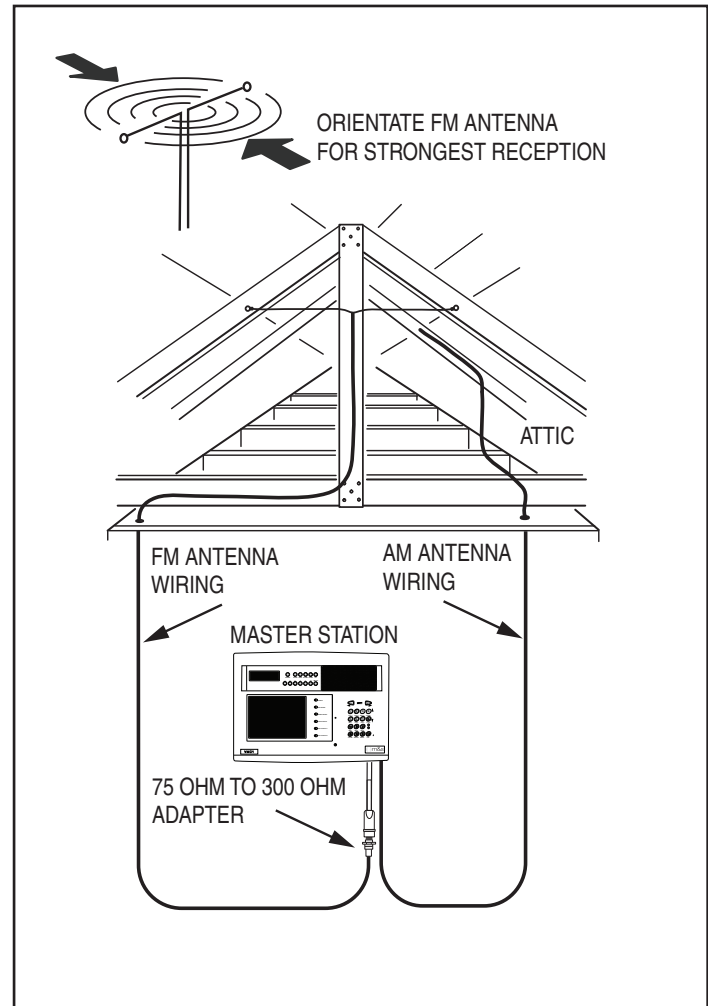

Figure 9. Antenna Location
3. Route the antenna wire down through the hole in the ceiling plate, down the stud bay to where the VMC1MB was installed (see Figure 9).
2. Use screws to attach the red and black antenna leads to the structure outstretched (See Figure 9).